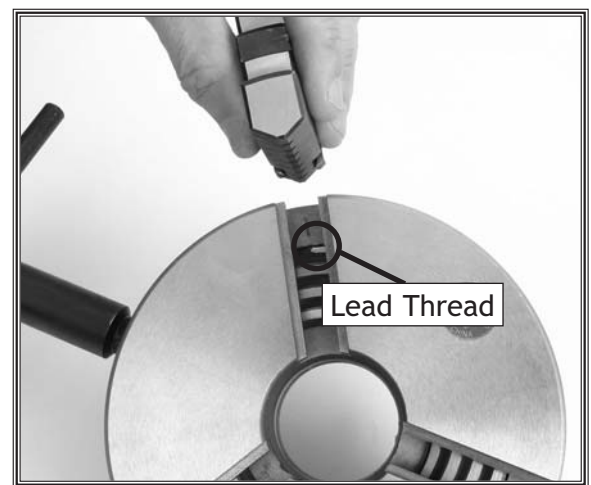

Figure 24. Lead thread on scroll.
5. Look into the jaw guide and you will see the scroll rotating as you turn the chuck key. When the leading thread of the scroll comes into view at the top of the #1 jaw guide, stop turning the chuck key (see **Figure 24**).